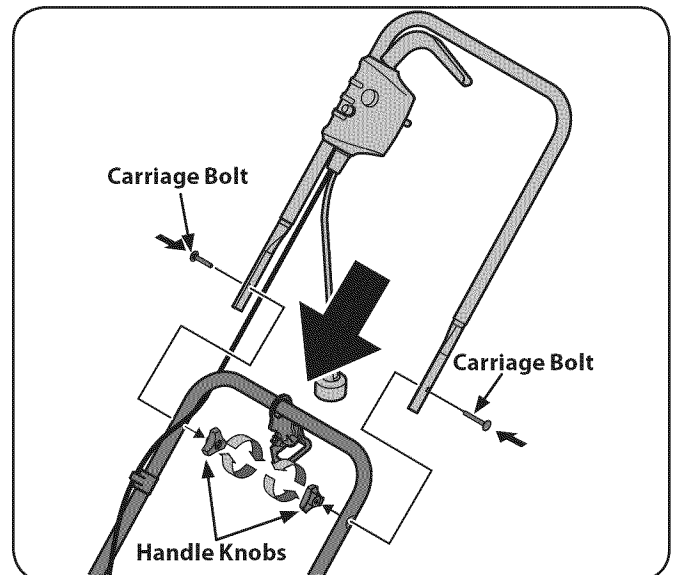

Figure 3-3
2. Attach the upper handle to the mid handle using one carriage screw and handle knob on each side. See Fig. 3-3.